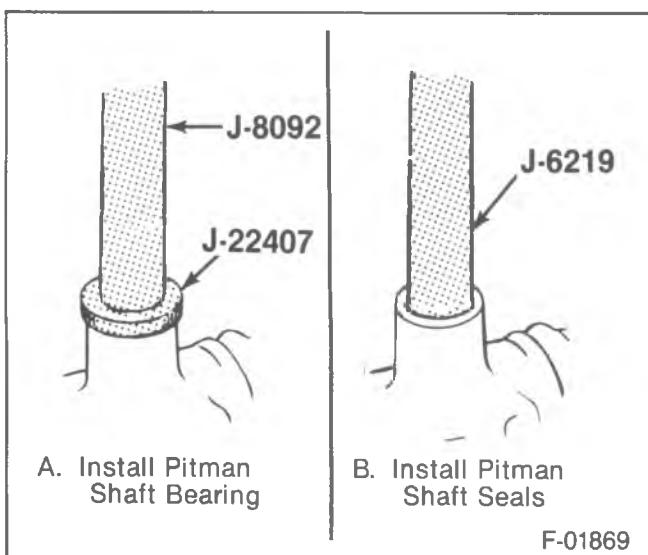

Figure 21—Installing the Pitman Shaft Bearing and Seals
- 3. Bearing (209) using J-22407 and J-8092.
- 4. Washers (207) and seals (208) using J-6219 (figure 21).
- 5. Retaining ring (205).
- 6. Pitman shaft (221), gasket (224) and side cover (225).
- 7. Bolt (226) and nut (227).